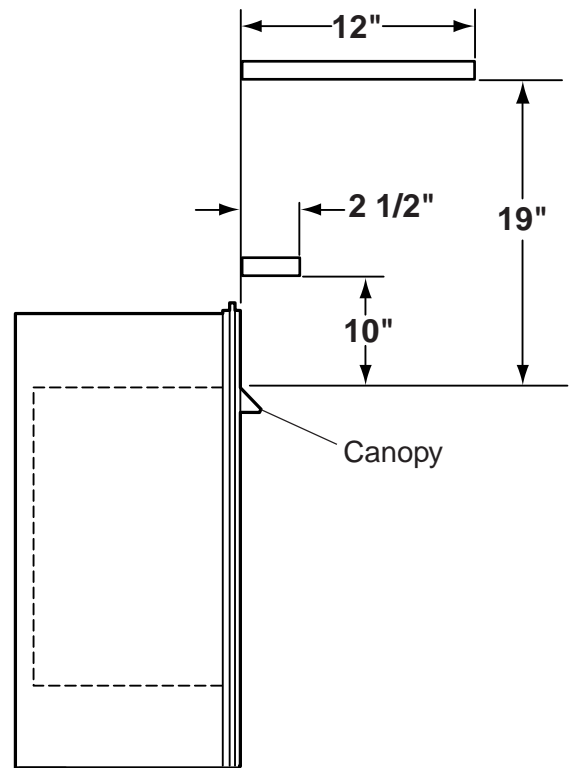

Figure 21 - Minimum Mantel Clearances
5. **Mantel clearances** — The canopy supplied with the unit must be installed. If a combustibles mantel is installed. It must meet the clearance requirements detailed in *Figure 21*.